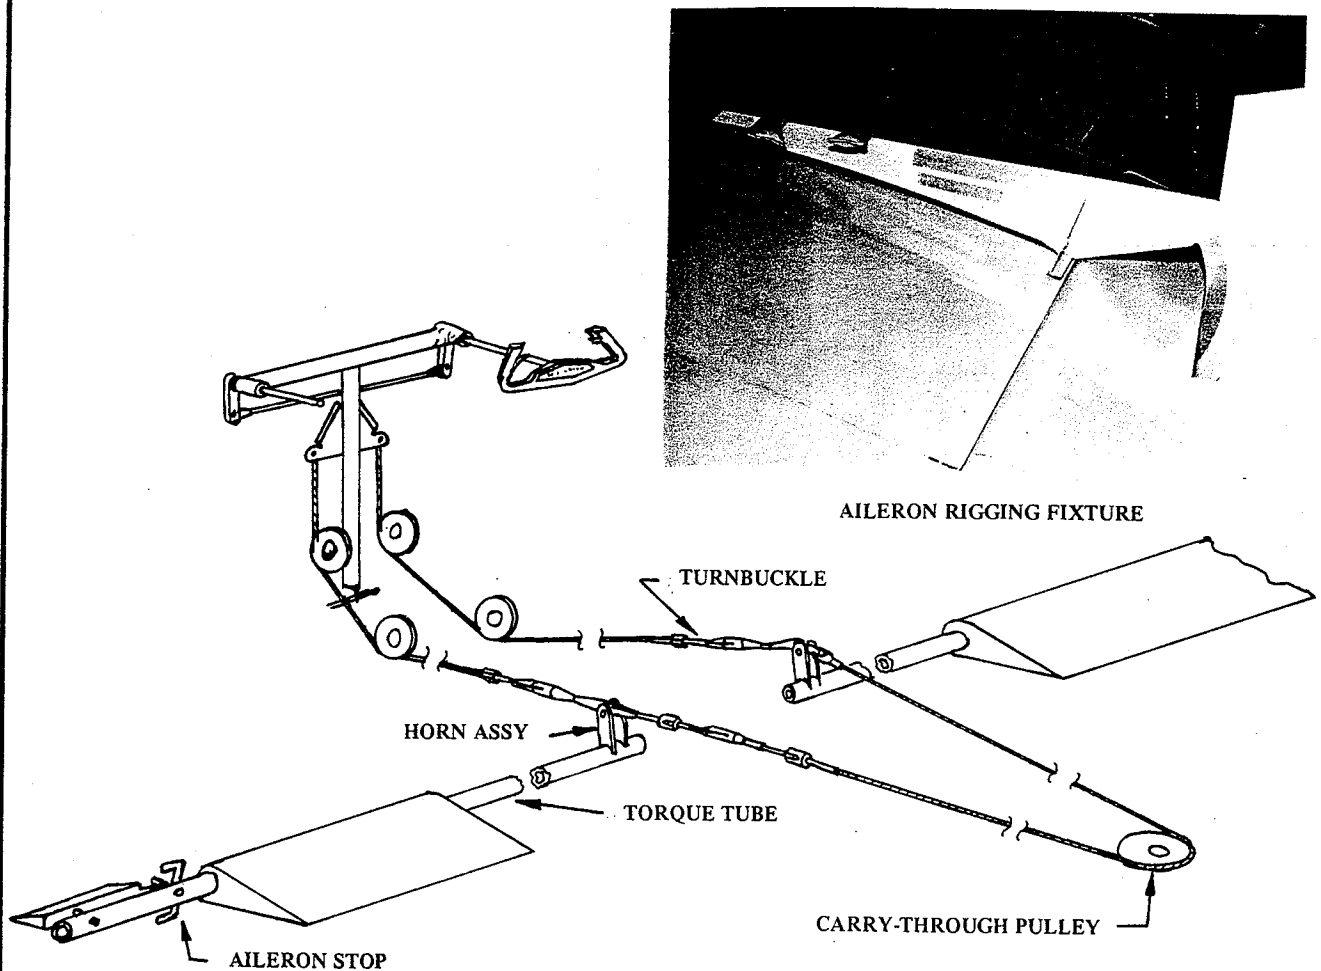

FIGURE 5-2 AILERON SYSTEM
2. Adjust the turnbuckles, located beneath the baggage compartment, until the ailerons are positioned at 0° as indicated on an aileron rigging fixture. (See Figure 5-2).